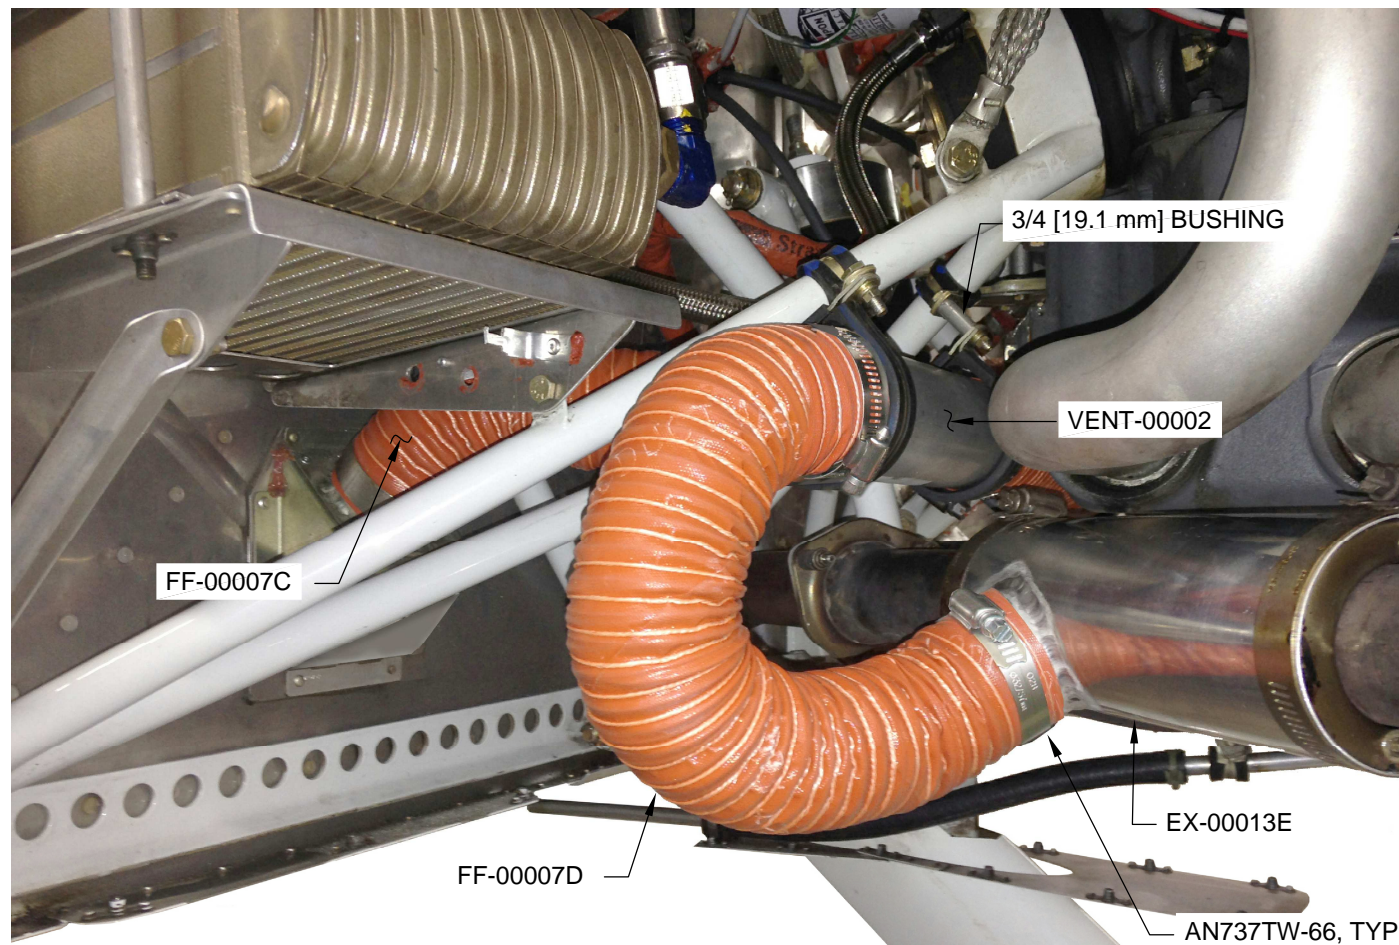
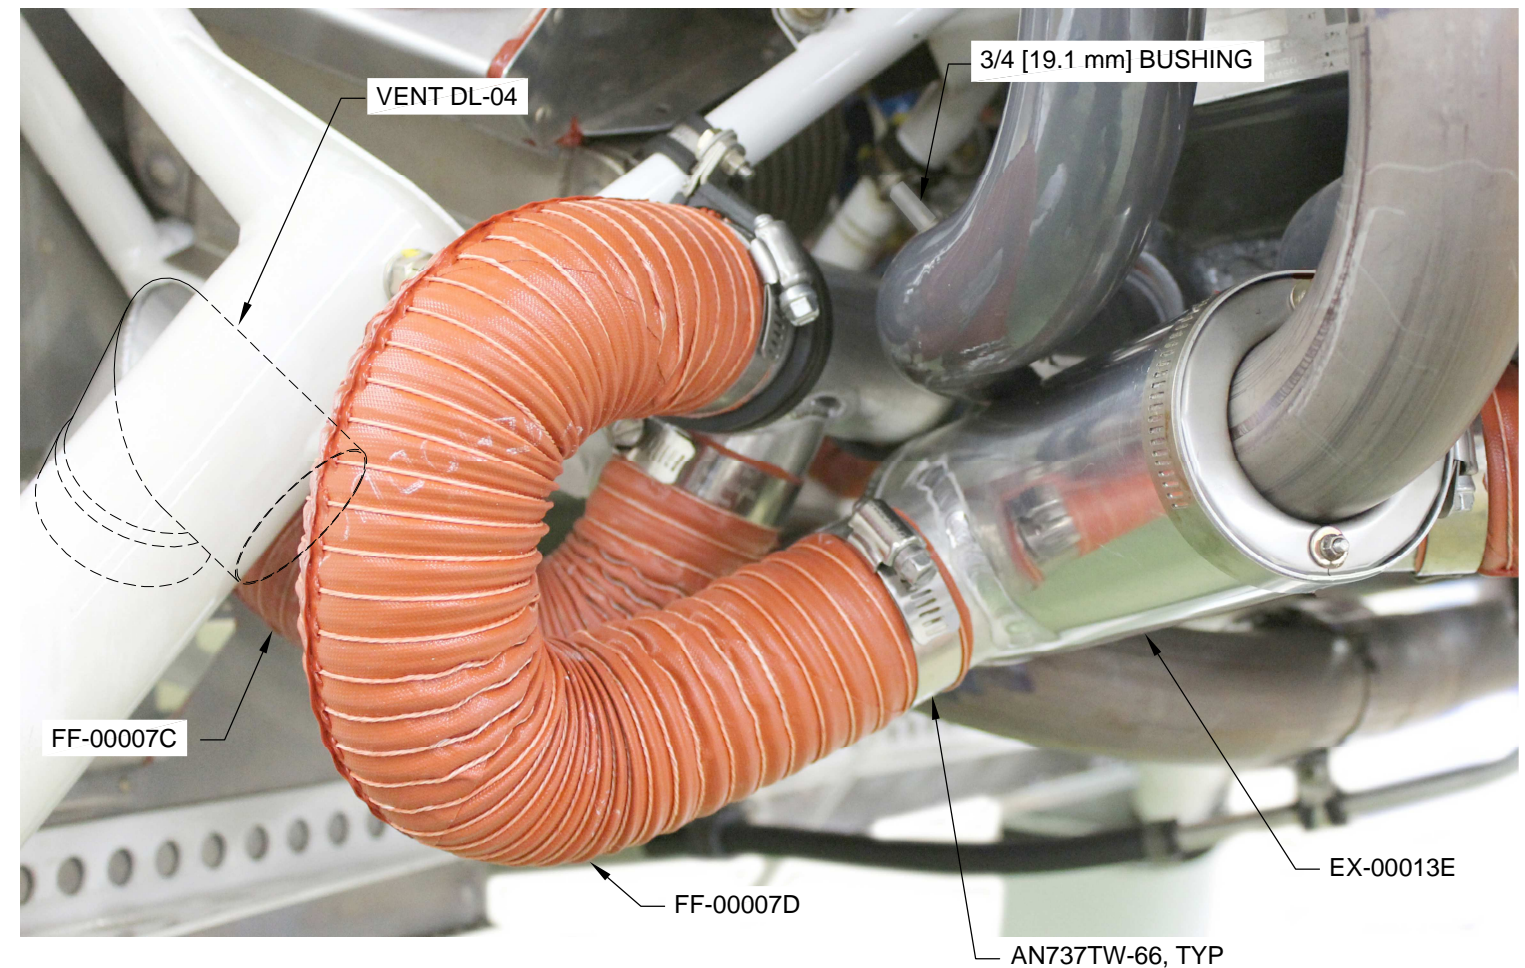

FIGURE 3: SCAT TUBE INSTALLATION (TRI-GEAR ONLY)
FIGURE 4: SCAT TUBE INSTALLATION (TAIL DRAGGER ONLY)
Step 2: Temporarily route and install the scat hoses, ensuring that they route as shown in Figure 2, and on Page 48-05, Figure 3 and Figure 4. Strive for minimal contact between the scat hoses and other components. In some areas, light contact with other components may be unavoidable.